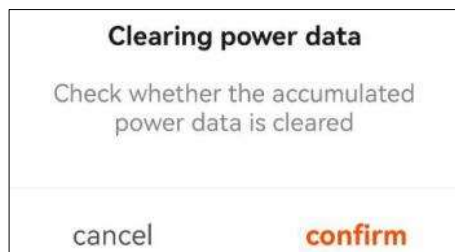

Fig.25 Clearing power date
- When you want to clear the accumulated PV power supply, you can click the “↺” icon under the main interface, and the system will automatically pop up the following prompt (Fig.25), If you select <confirm>, the accumulated PV power supply will be reset to zero.